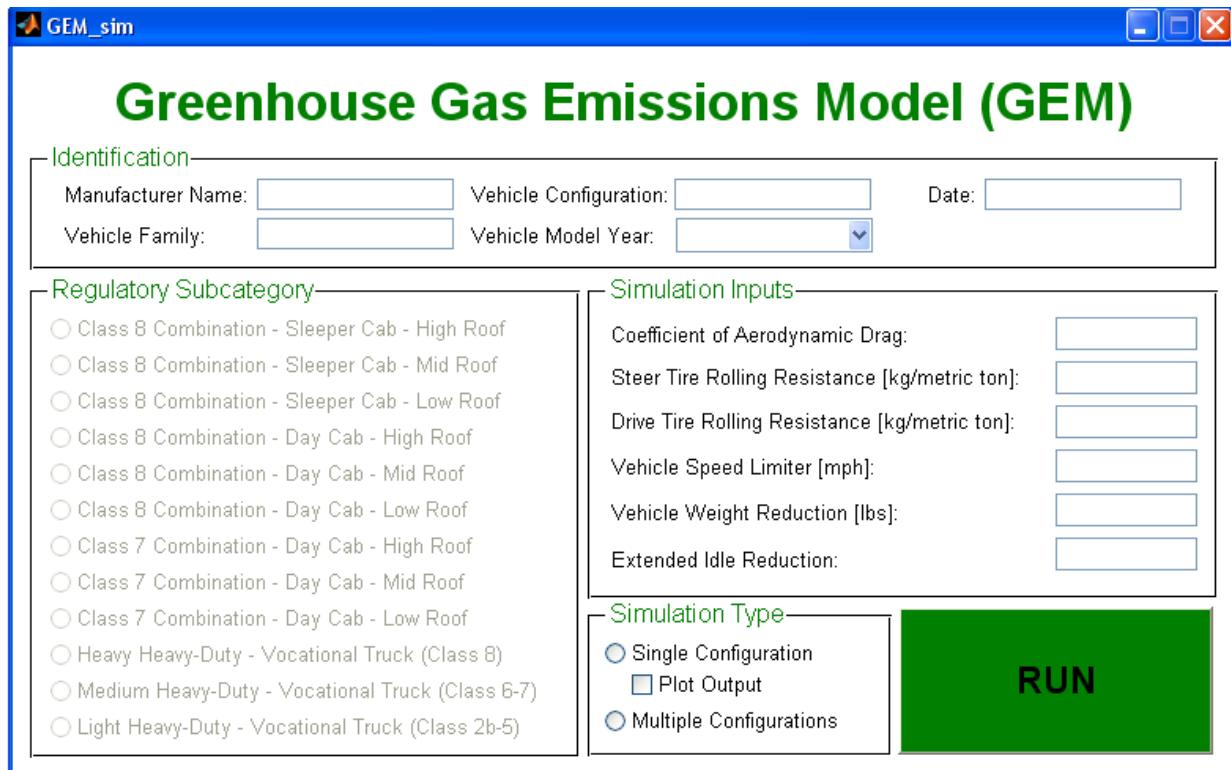

Figure 1 – GEM Input GUI for Single Configuration Run
To run GEM, double click the GEM.exe on the desktop icon. A graphic user interface GUI will pop as shown in Figure 1.
Figure 1 allows the user to enter the required parameters into the model. There are essentially two types of input parameters. The first set of parameters is required to provide information to EPA and NHTSA. These include the following:
- Click RUN (Figure 1), the GEM will run.
- Go back to GEM GUI (Figure 1).
- Click “Multiple Configurations” in Figure 1. A window that says “Select the xlsx input file for Multiple Configurations” will display as follows (Figure 3).
- The RUN button in Figure 1 will be changed to RUN BATCH. Click RUN BATCH. Multiple Configurations will then run. A progress bar window will be displayed.